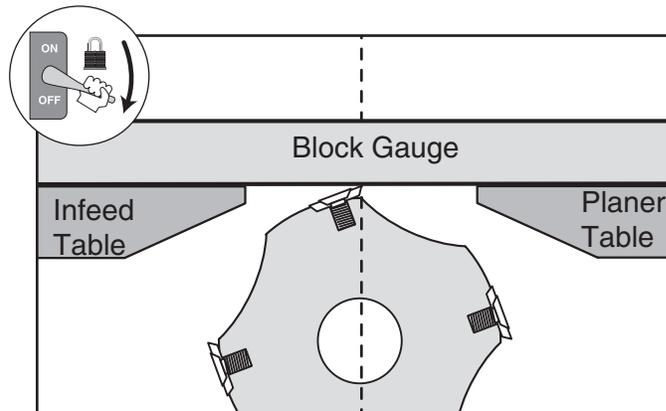

Figure 103. Infeed table even with planer table.
3. Place block gauge across infeed and planer tables, as shown in **Figure 103**.
4. Use infeed table handwheel to adjust infeed table even with planer table, as shown in **Figure 103**. Make sure there are no gaps between infeed table and block gauge and planer table and block gauge.